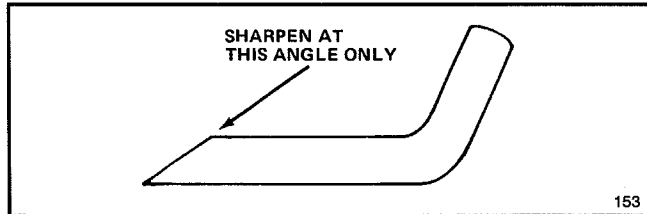

Figure 26
6. SHARPENING BLADE—Using a file, sharpen top side of blade and maintain original cutting angle (Fig. 26). The blade remains balanced if the same amount of material is removed from both cutting edges.